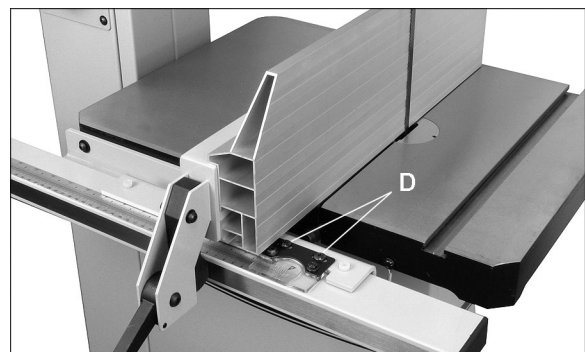

Figure 14
Refer to Figure 14.
3. If cursor is not at zero, loosen two screws (D, Figure 14) and shift cursor as needed. Retighten screws.